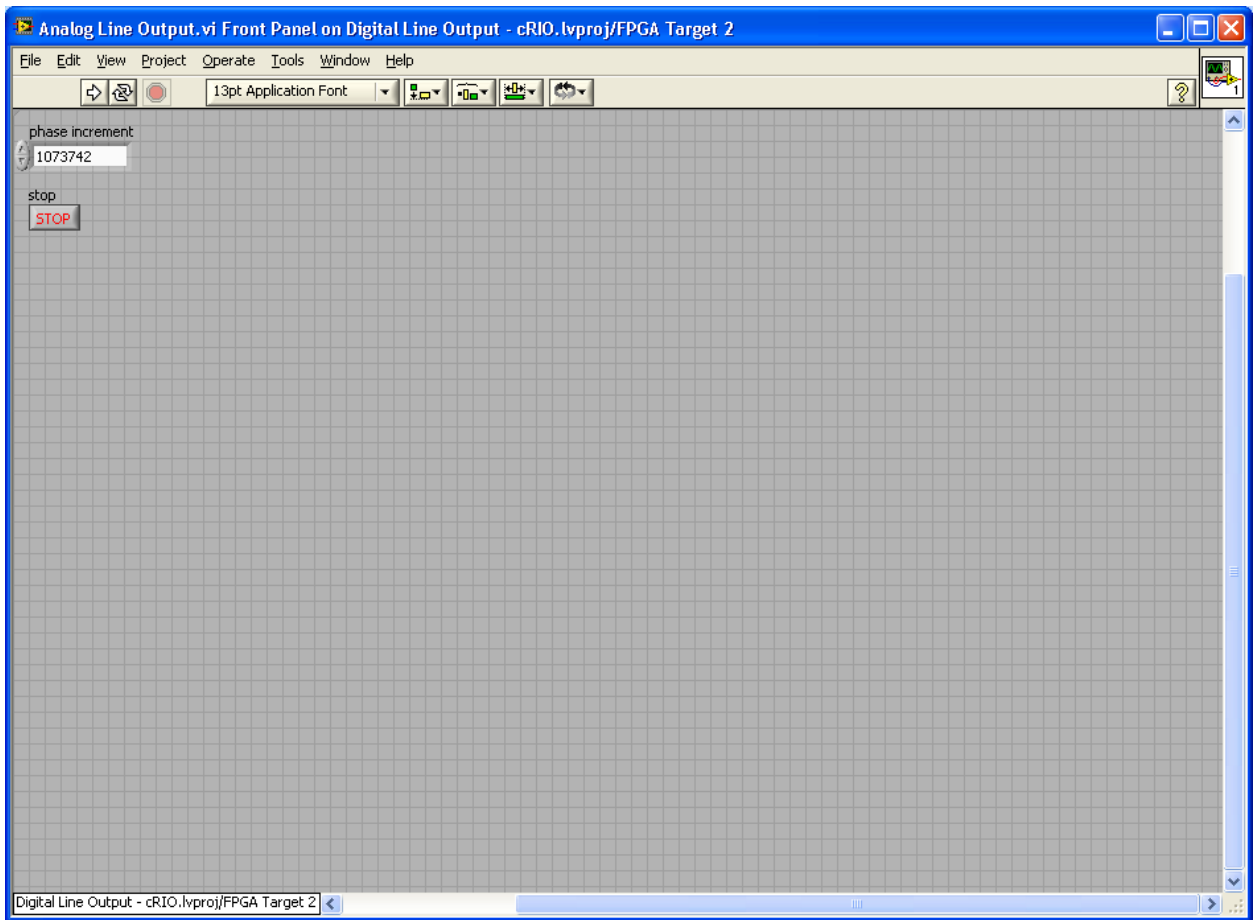

Figure 9 - Analog Line Output.vi
2. In the Project Explorer window Double click on Analog Line Output.vi. The following VI, shown in Figure 9, should open.